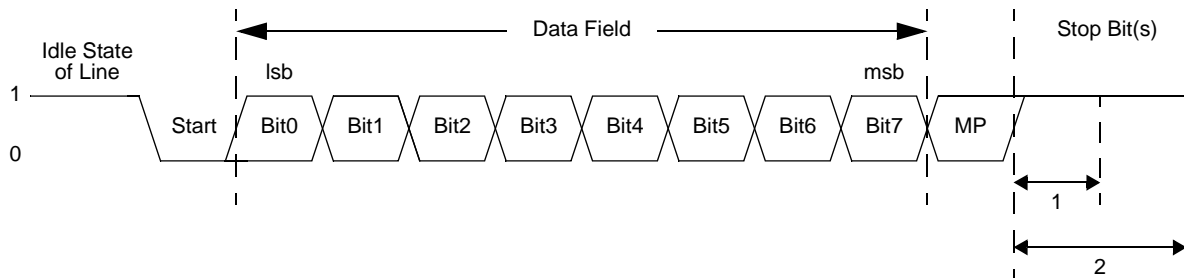

Figure 14. UART Asynchronous Multiprocessor Mode Data Format
The UART has a Multiprocessor (9-bit) mode that uses an extra (9th) bit for selective communication when a number of processors share a common UART bus. In Multiprocessor mode (also referred to as 9-Bit mode), the multiprocessor bit (MP) is transmitted immediately following the 8-bits of data and immediately preceding the Stop bit(s) as illustrated in Figure 14. The character format is: